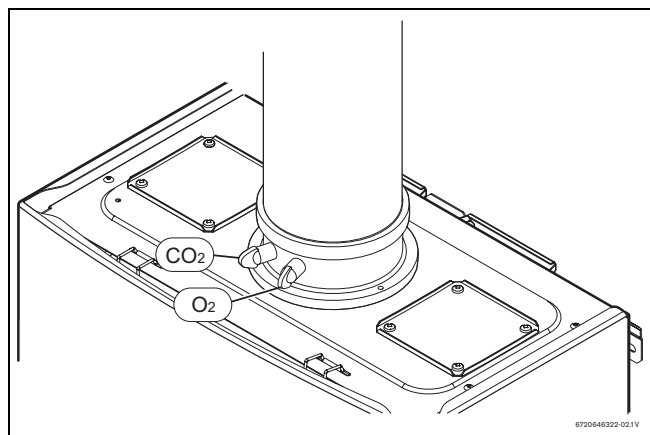

Fig. 56 Measuring port
- ▶ Remove brass flat head screw on the flue gas connector (→ Fig. 56).